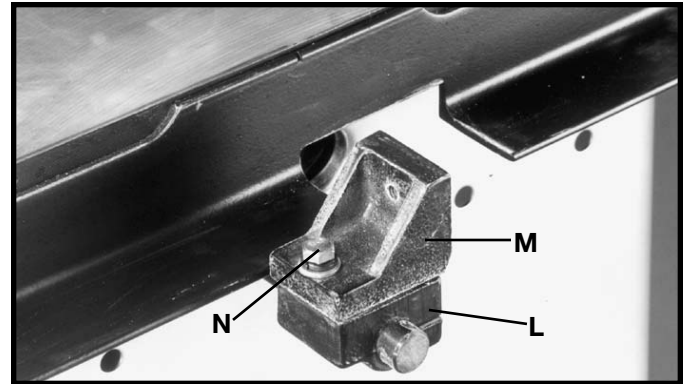

Fig. 19
8. Assemble upper splitter bracket (M) Fig. 19, to lower bracket (L) using one-inch long hex head screw (N) with lockwasher and flat washer. **NOTE:** Do not tighten screw (N) at this time.